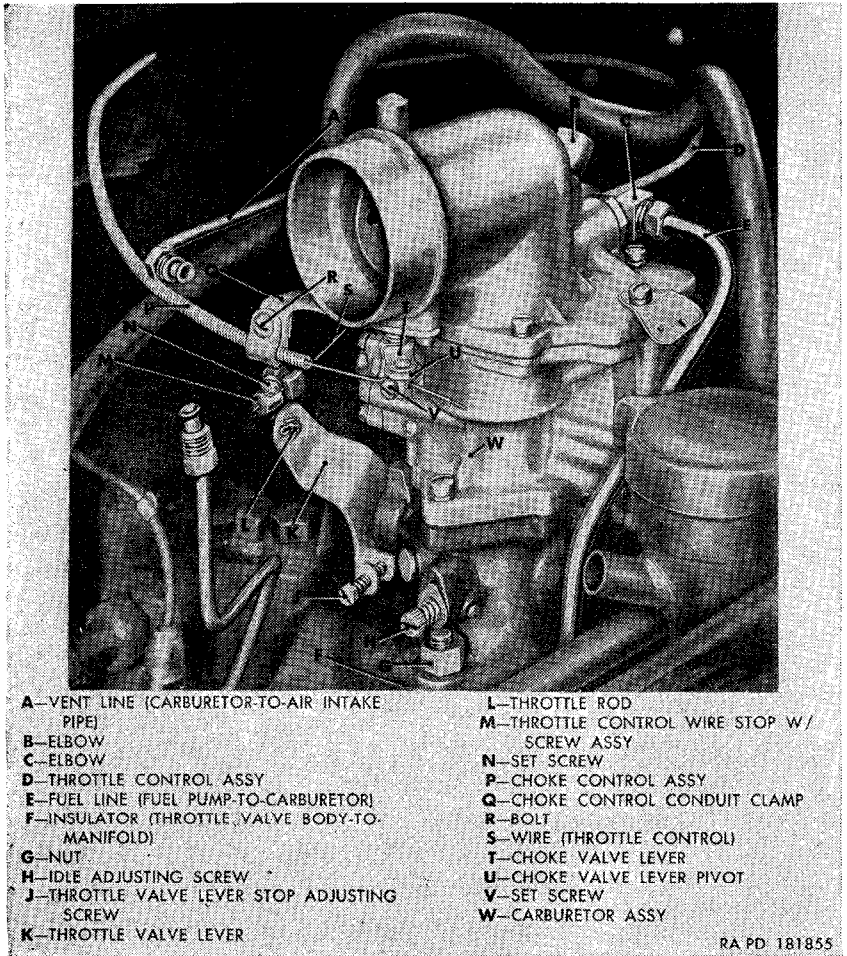

Figure 64. Carburetor assembly installed—air intake pipe removed.
Note. The key letters noted in parentheses refer to figure 64, except where otherwise indicated.
- (b) Push the rod (B) end through the throttle valve lever (U) hole, install a No. 8 flat washer over the rod end, a $\frac{1}{16} \times \frac{1}{2}$ cotter pin through the rod hole, and spread the pin ends.
- (c) Push the rod (B) opposite end through the accelerator upper bellcrank assembly (D) hole, install a No. 8 flat washer over the rod end, a $\frac{1}{16} \times \frac{1}{2}$ cotter pin through the rod hole and spread the pin ends.
- (1) *Adjustment.* Loosen the set screw (N, fig. 64) in the throttle control wire stop with screw assembly (M, fig. 64). Push the throttle control (H, fig. 11) handle all the way into the dash. Slide the stop (M, fig. 64) up to the throttle rod (L, fig. 64) pivot; then slide the stop away from the pivot slightly and tighten the screw in the stop.
- (a) Loosen the set screw (N, fig. 64) and slide the throttle control wire stop with screw assembly (M, fig. 64) off the throttle control wire (S, fig. 64).
- (b) Loosen the screw in the throttle control conduit clamp (V) from the nut.
- (b) Push the control end through the grommet, in the dash, the throttle control conduit clamp (V) and the throttle rod (B) pivot.